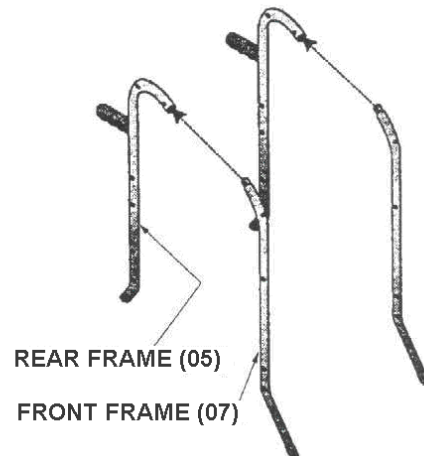

*Figure 1. Frame Assembly*
2. Insert one Front Frame (07) into one Rear Frame (05) as shown in *Figure 1*. Insert the swaged end of the Front Frame into the curved portion of the Rear Frame near the handle. Be sure the lock buttons on the front frames fit into the holes in the rear frames.